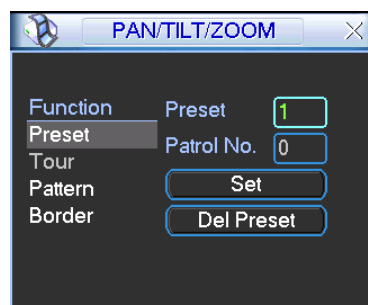
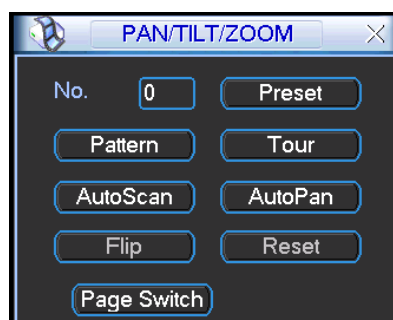

Figure 4-40
Figure 4-41
In Figure 4-37, please click the “set” button. The interface is shown as below. See Figure 4-40. Here you can set the following items:
In Figure 4-37, click page switch button, the interface is shown as in Figure 4-41. Here you can activate the following functions:
- The following setups are usually operated in the Figure 4-37, Figure 4-40 and Figure 4-41.
In Figure 4-40, click preset button and input preset number. The interface is shown as in Figure 4-42.
In Figure 4-41, please input preset number in the No. blank, and click preset button.
In Figure 4-40, input patrol (tour) number in the No. blank and click patrol button
In Figure 4-40, click pattern button and then click “begin” button. The interface is shown as in Figure 4-44. Then you can go to Figure 4-37 X to modify zoom, focus, and iris.
In Figure 4-41, click “Auto Scan” button, the system begins auto scan. Correspondingly, the auto scan button becomes Stop button. Click stop button to terminate scan operation.
In Figure 4-41, click page switch button, you can see an interface is shown as below. See Figure 4-46. Here you can set auxiliary function. The aux value has relation ship with the Aux button of the decoder.